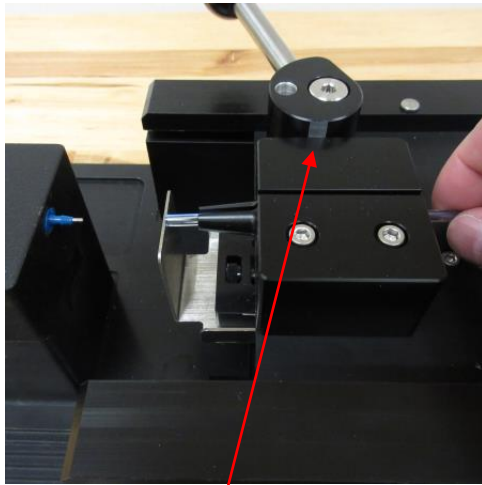

Figure 7
- Open jaws to the semi open position by rotating cam until the flat is resting on the jaw (Figure 7)
- With jaws in the semi open position, insert tubing into jaws up to the stop gate and lock in position with locking lever. (Figures 7&8)